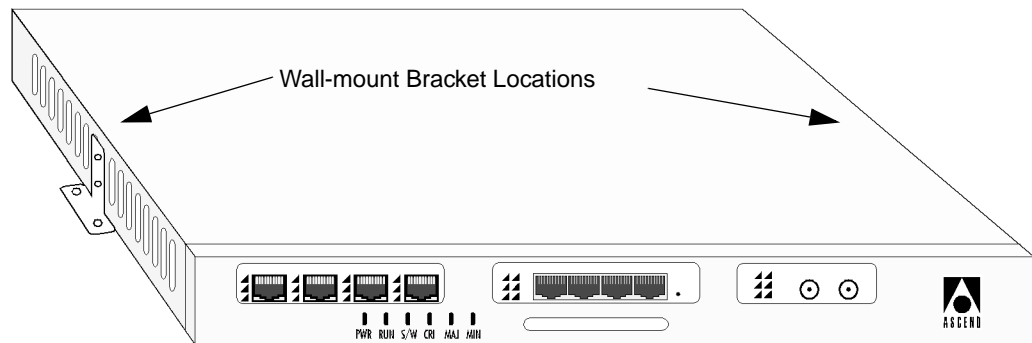

Figure 4-3. Bracket Locations for Wall-Mounting
2. As illustrated in **Figure 4-3**, attach a wall-mount bracket to the center of each side of the SA 100 using the flathead Phillips screws supplied.